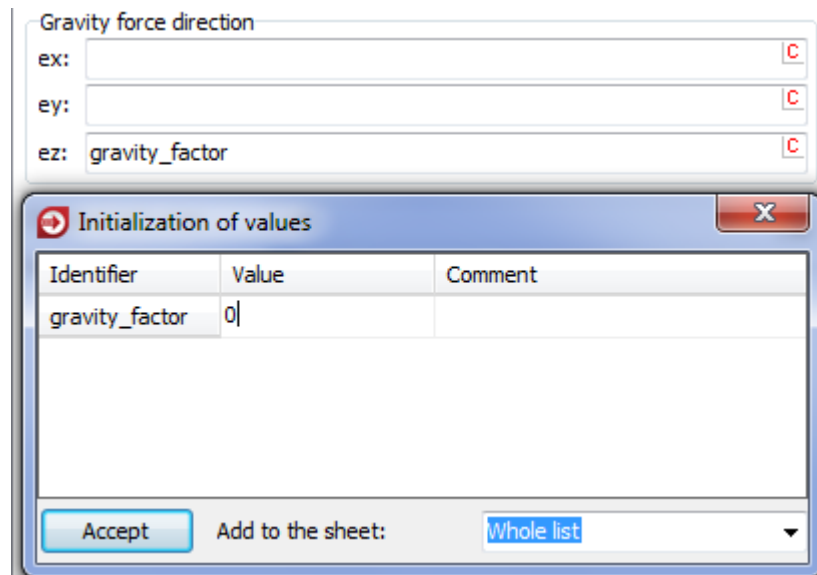

Figure 3.11. How to turn off gravity force
3. Go to **Object** tab on the inspector panel on the right. In **Gravity force direction** group in **ez** field put identifier **gravity\_factor** with **0** value, Figure 3.11.